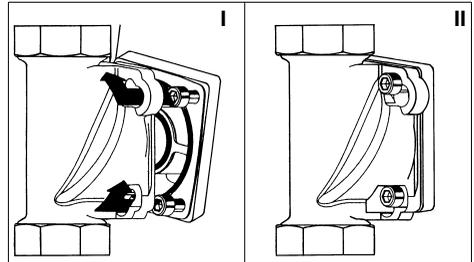

Fig. 4: Built-in rotary flange with bayonet fixture
- Insert the four flange screws in the bayonet drill holes on the built-in rotary flange (see fig. 4 I).
- Turn the filter in a clockwise direction as far as it will go (see fig. 4 II).